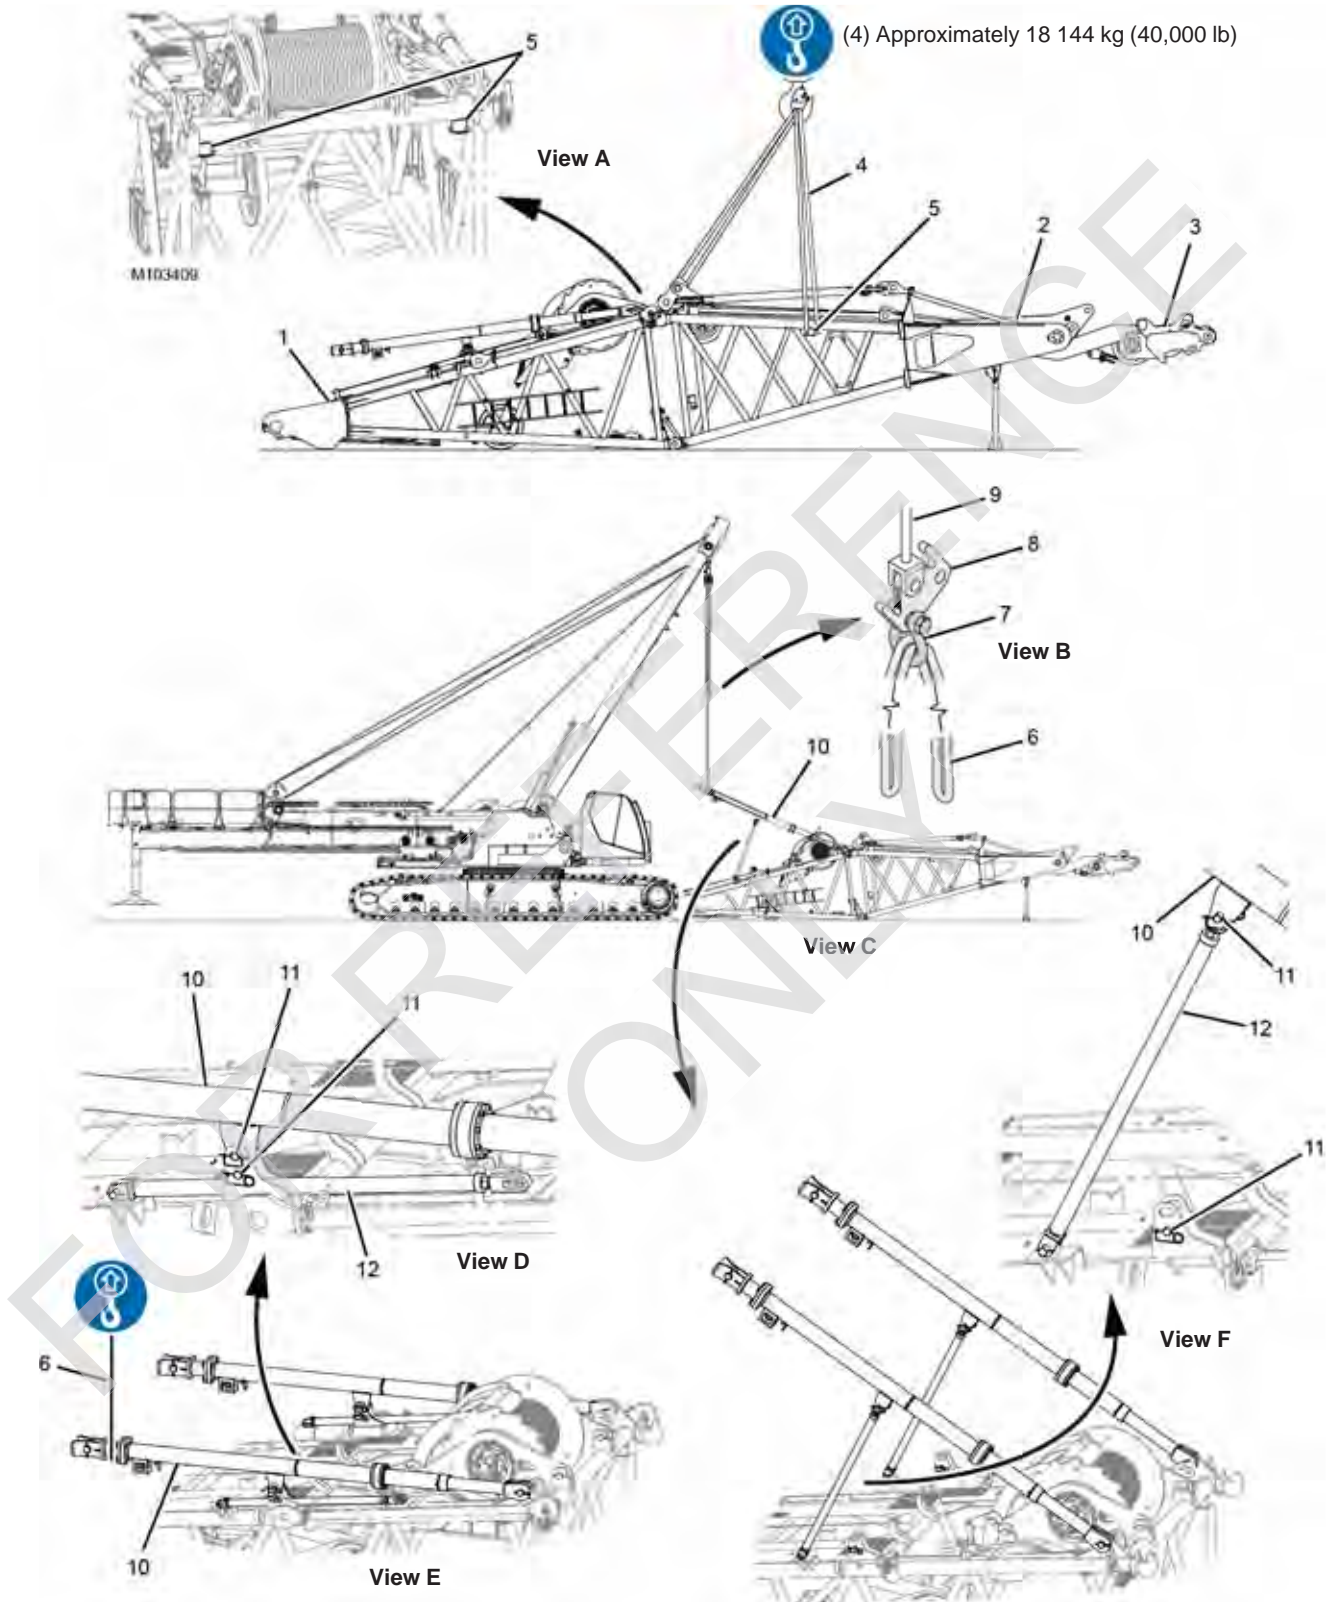

Figure 4-75
1. Attach lifting slings from the assist crane to the mast top as shown in View A, Figure 4-75 on page 4-132.
See Figure 4-75 for the following procedure.